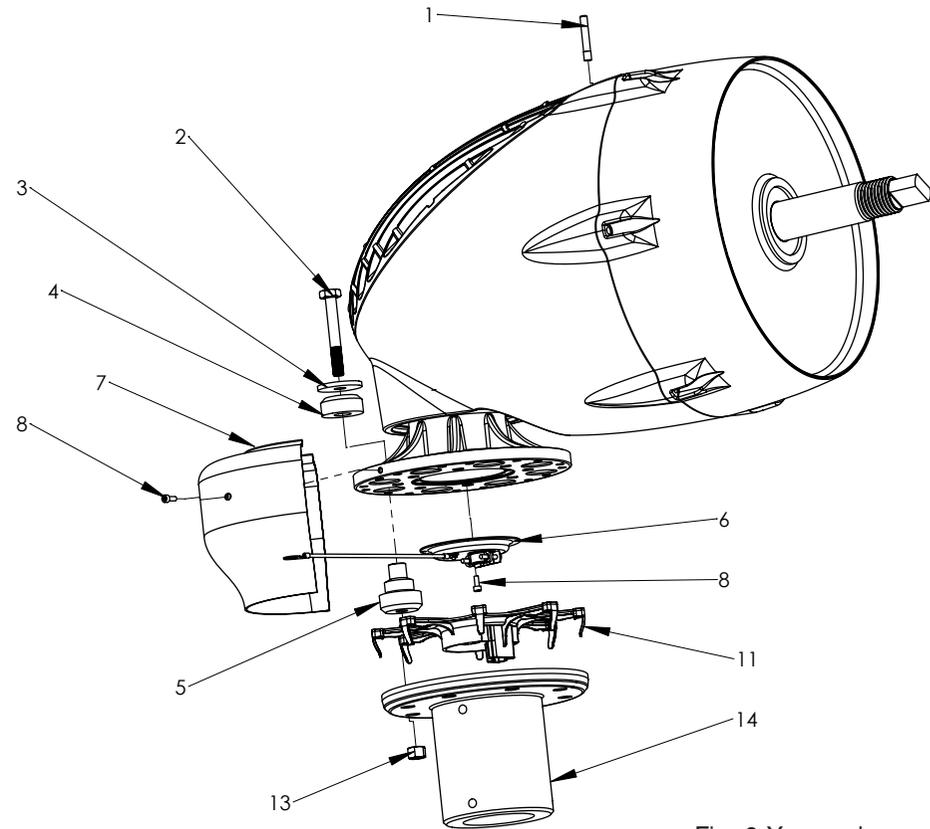

Fig. 6 Yaw and antenna assembly
- Install the vibration isolator halves (items 4 and 5) on the yaw as shown in **Fig. 6**. Note the orientation of the isolator halves is very important – install as shown.
- Insert the vibration isolator bolts and snubbing washers into the vibration isolators from “above” as shown in **Fig. 6**.
- Mount the yaw shield halves using four M5 socket head screws. Refer to **Fig. 6**.